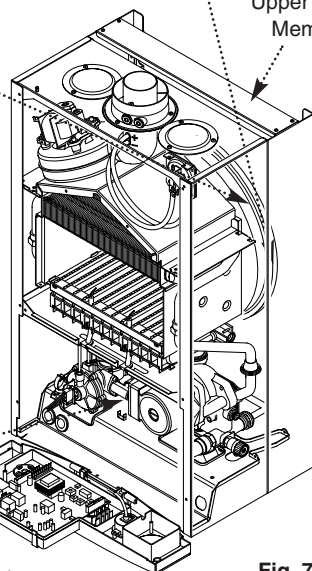

Fig. 76
5. Undo the screws and remove the appliance upper cross member (Fig. 76). Slide the expansion vessel out of the retaining clips (Fig. 75).